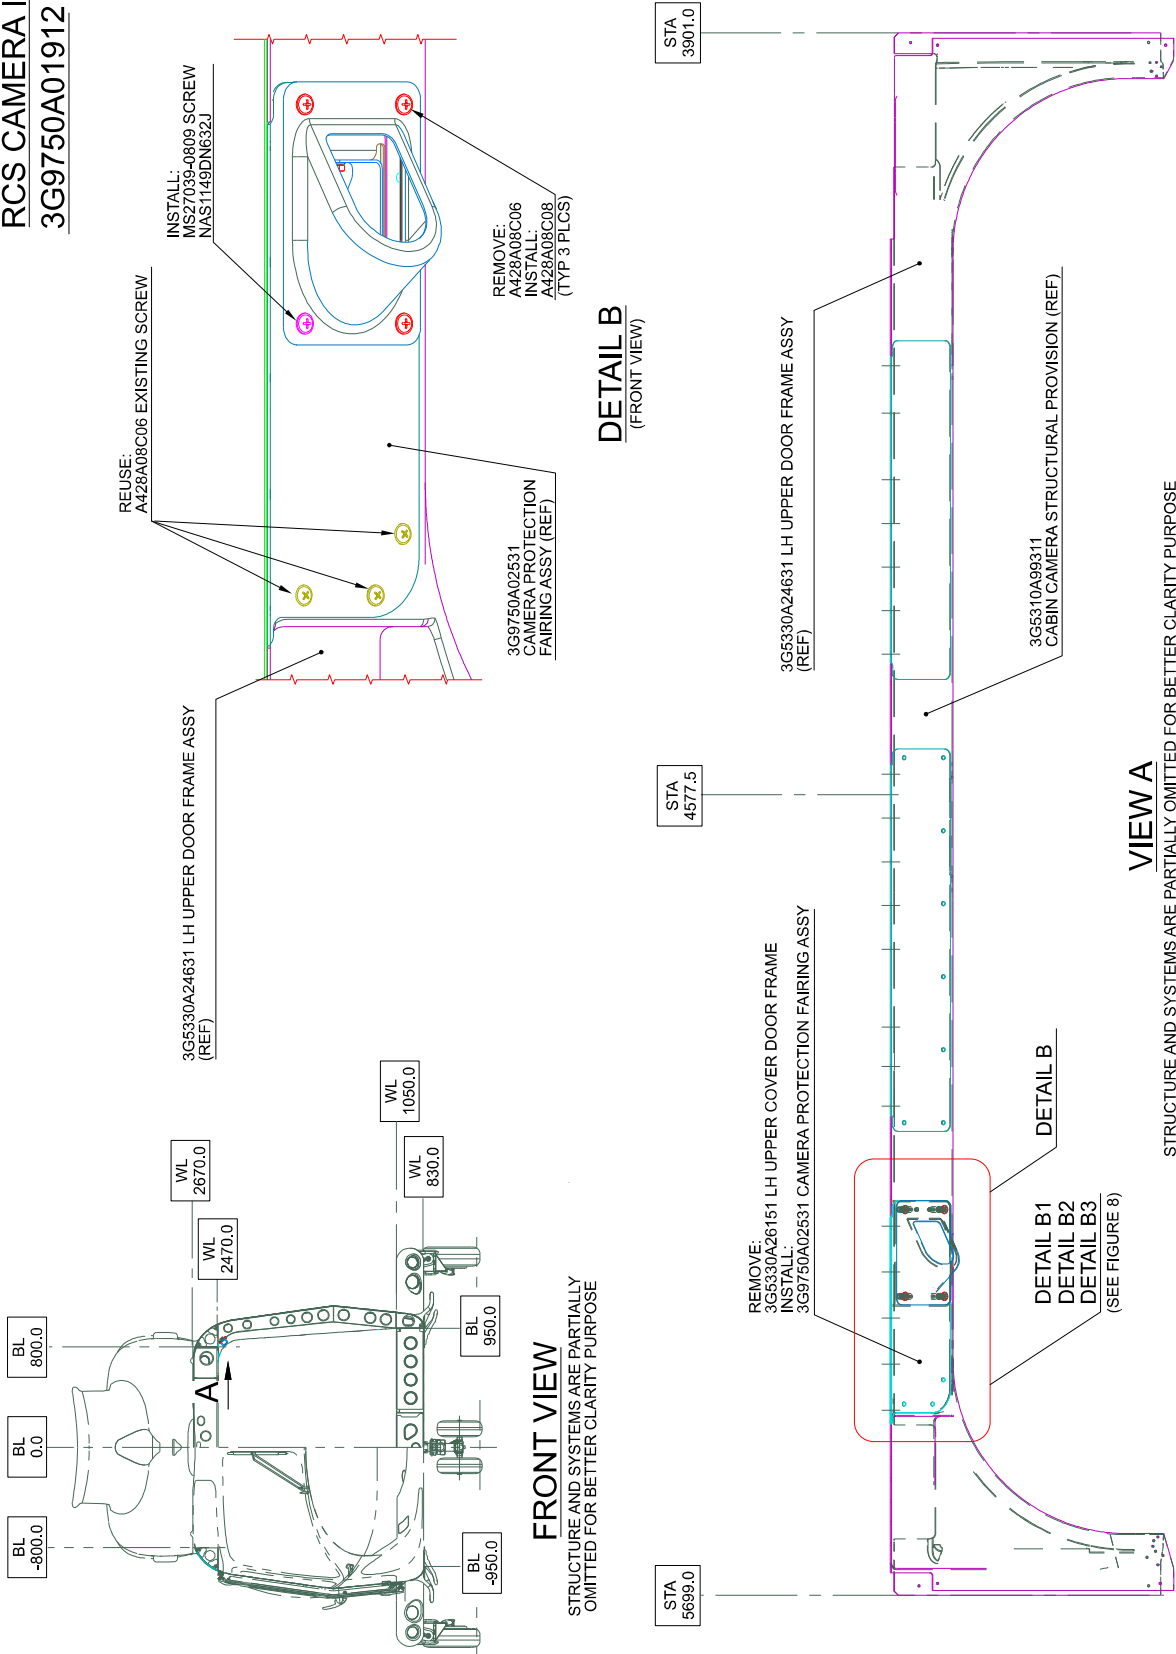

Figure 7
3. In accordance with DM DM0139-A-06-41-00-00A-010A-A and with reference to Figures 7 and 8, gain access to the area affected by the installation and perform RCS camera instl P/N 3G9750A01912 as described in the following procedure:
- 3.1 With reference to Figure 7 View A and Figure 8 Detail B1, install the adjustable support P/N 3G9750A02451 on the interface support assy P/N 3G9750A02331 by means of n°2 screws P/N NAS1802-3-7 and n°2 washers NAS1149DN632J. In accordance with DM 39-A-20-00-00-00A-711A-A, tighten the two screws to the standard torque value.
- 3.3 With reference to Figure 7 View A and Figure 8 Detail B2, remove the 3 existing anchor nuts from the LH upper door frame assy P/N 3G5330A24631.
- 3.4 With reference to Figure 7 detail B, remove the existing 3 screws P/N A428A08C06 from the LH upper door frame assy P/N 3G5330A24631.
- 3.5 With reference to Figure 7 View A, remove the LH upper cover door frame assy P/N 3G5330A26151 and its relevant hardware. Retain the hardware for later reuse.
- 3.6 With reference to Figure 7 and Figure 8 Detail B1, install the camera protection fairing assy P/N 3G9750A02531 on the LH upper door frame assy P/N 3G5330A24631 and on the interface support assy P/N 3G9750A02331 by means of existing n°3 screws, n°3 screws P/N A428A08C08, n°1 screw P/N MS27039-0809 and n°1 washer P/N NAS1149DN632J. In accordance with DM 39-A-20-00-00-00A-711A-A, tighten the n°7 screws to the standard torque value.
- 2.3 With reference to Figure 7 Detail B, remove and retain the camera protection fairing assy P/N 3G9750A02531 from the LH upper door frame assy and from the interface support assy P/N 3G9750A02331 and its relevant hardware.
- 2.4 With reference to Figure 7 View A and Figure 8 Detail B2, remove the 3 existing anchor nuts from the LH upper door frame assy P/N 3G5330A24631.
- 2.5 With reference to Figure 7 detail B, remove the existing 3 screws P/N A428A08C06 from the LH upper door frame assy P/N 3G5330A24631.
- 2.6 With reference to Figure 7 View A, remove the LH upper cover door frame assy P/N 3G5330A26151 and its relevant hardware. Retain the hardware for later reuse.
- 2.8 With reference to Figure 7 and Figure 8 Detail B1, install the camera protection fairing assy P/N 3G9750A02531 on the LH upper door frame assy and on the interface support assy P/N 3G9750A02331 by means of existing n°3 screws, n°3